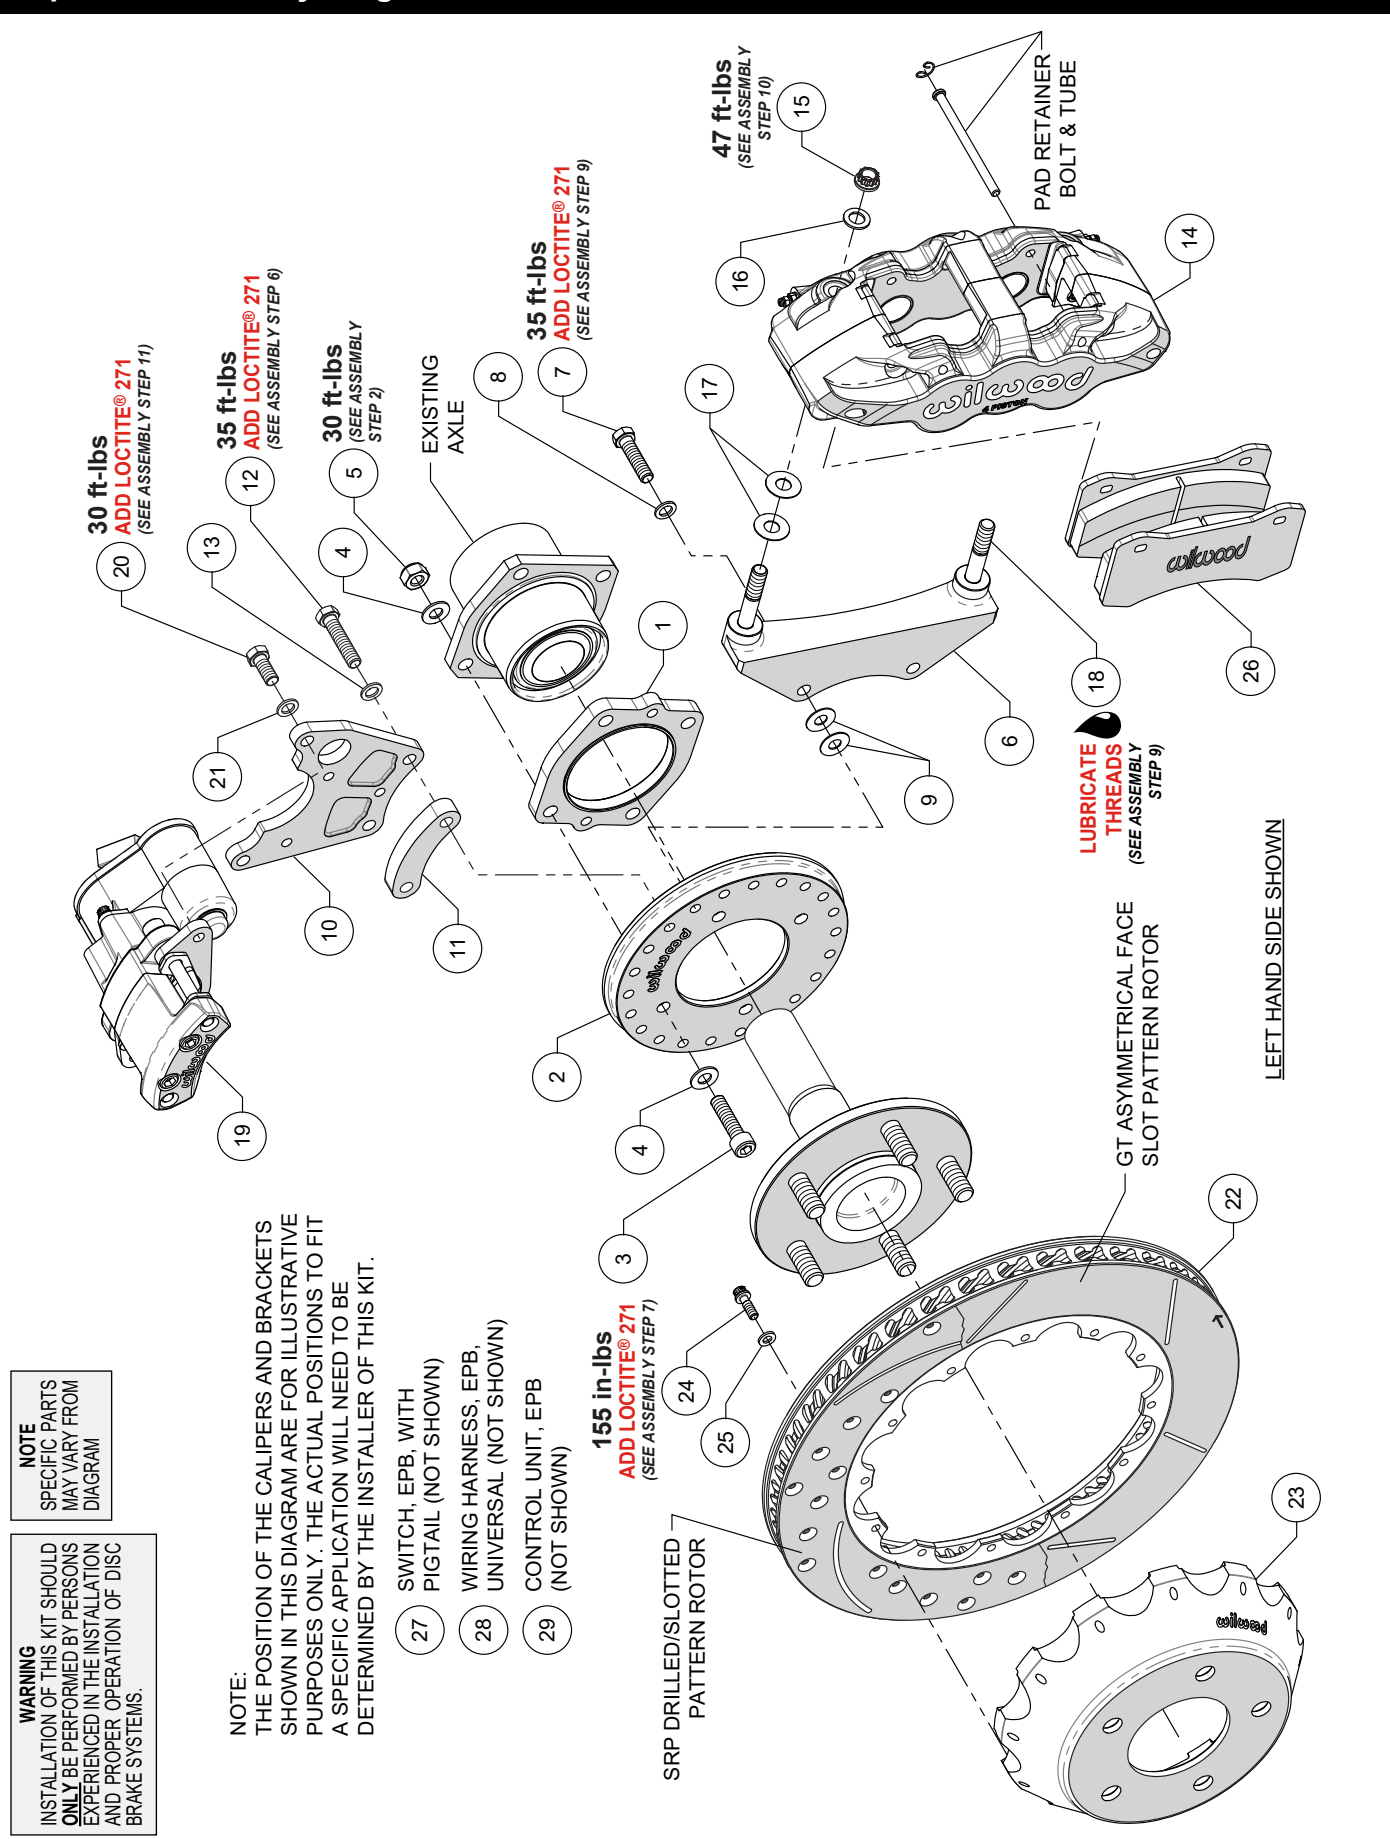

Figure 1. Typical Installation Configuration
NOTE: Numbers in parenthesis refer to the parts list and Figure 1 on the preceding pages.
STEP 1 Slide the backing plate spacer (1) onto the axle housing as shown in Figure 1 and Photo 1. **NOTE:** Ensure the spacer fits flush against the axle flange.
STEP 2 Orient the backing plate (2) as shown in Figure 1 and Photo 2 and mount it to the axle housing flange using bolts (3), washers (4), and lock nuts (5). Ensure the backing plate fits flush against the spacer (1). Torque lock nuts (5) to value shown in Figure 1. Reinstall the axle into the axle housing.
STEP 3 Start by determining the best location for the service caliper (14). This caliper is usually mounted in the 3:00 or 9:00 o'clock position, but may be rotated up or down approximately 45 degrees and still allow for proper bleeding, Photo 3. Orient the service caliper bracket (6) as shown in Figure 1 and Photo 4. Install bracket (6) to the backing plate (2) in the desired location using bolts (7), washers (8), and two .035" shims (9) placed between the bracket and backing plate, Figure 1. Temporarily tighten bolts. Next, mount the service caliper to the bracket (6) using lock nuts (15) and washers (16). Temporarily tighten bolts. Check that the caliper (including inlet fitting and hose) has sufficient clearance to all surrounding components through the full suspension travel. Relocate the caliper/bracket on the backing plate as needed to ensure proper clearance is achieved.
STEP 4 Determine the best location for the EPB caliper (19). **NOTE:** The EPB caliper motor extends farther inboard than the service caliper and therefore needs additional consideration when determining a mounting location with sufficient clearance. In the example application shown in Photo 5, the EPB caliper has sufficient inboard clearance to the leaf spring. However, if the EPB caliper were mounted closer to the 12:00 o'clock position, the inner body of the vehicle would hit the caliper during full compression of the suspension.
STEP 5 Orient the EPB caliper bracket (10) as shown in Figure 1. Install to the backing plate (2) in the desired location using bolts
(12), washers (13), and spacer (11), Figure 1 and Photos 6 and 7. Temporarily tighten bolts. **NOTE:** The EPB bracket is reversible. In one direction the bracket will position the EPB caliper closer to the service caliper, and vice versa if reversing the bracket. Next, mount the EPB caliper (19) to the bracket (10) using bolts (20) and washers (21). Temporarily tighten bolts. **NOTE:** EPB calipers are left and right handed, however they can be used on either side of the vehicle to best suit your specific application. Check that the EPB caliper (including wiring harness connector) has sufficient clearance to all surrounding components through the full suspension travel. Relocate the EPB caliper/bracket on the backing plate (2) as needed to ensure proper clearance is achieved.